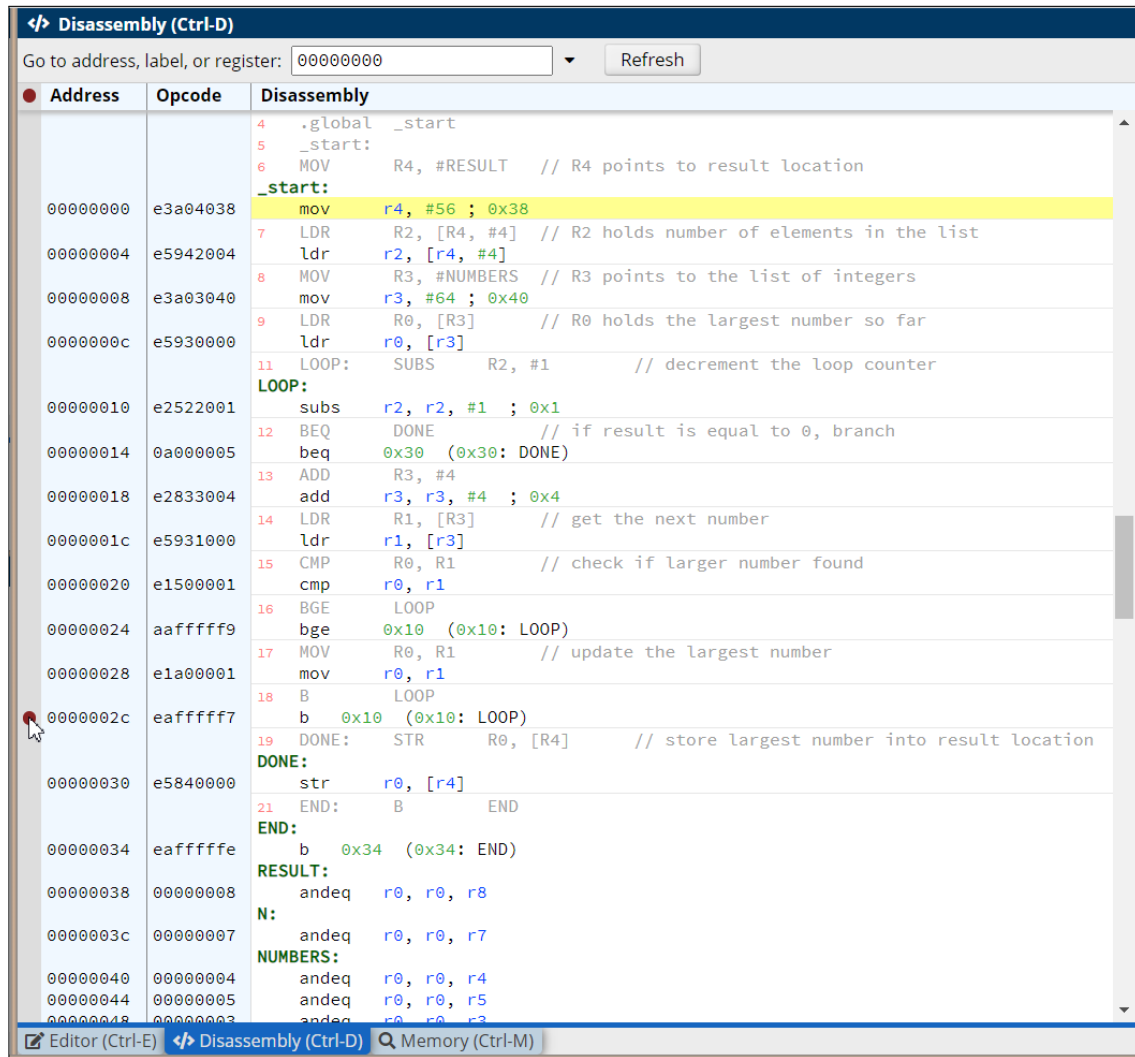

Figure 9: Setting a breakpoint.
6. Now set a breakpoint at address `0x0000002C` by clicking on the gray bar to the left of this address, as illustrated in Figure 9. Select the `Continue` command to run the program again and observe the contents of register `r0` when the instruction at the breakpoint, which is `B LOOP`, is reached. Use `Continue` to repeatedly run the program, which will stop at the breakpoint in each iteration of the loop, and monitor the contents of register `r0` as the program searches for the largest number in the list.